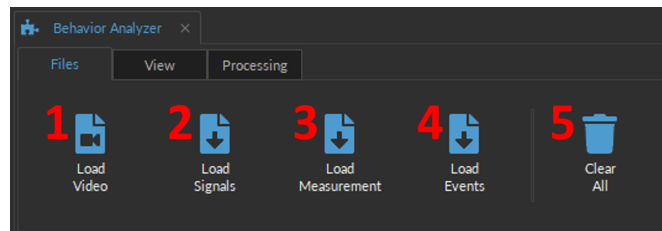
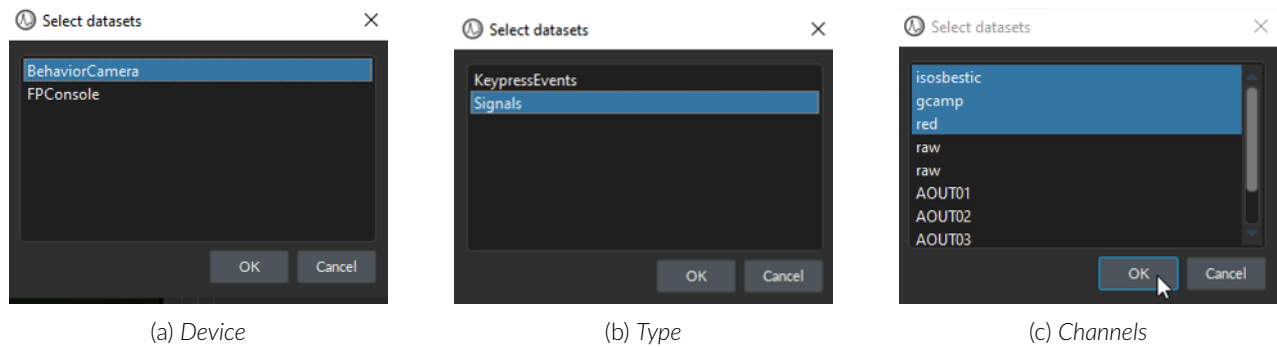
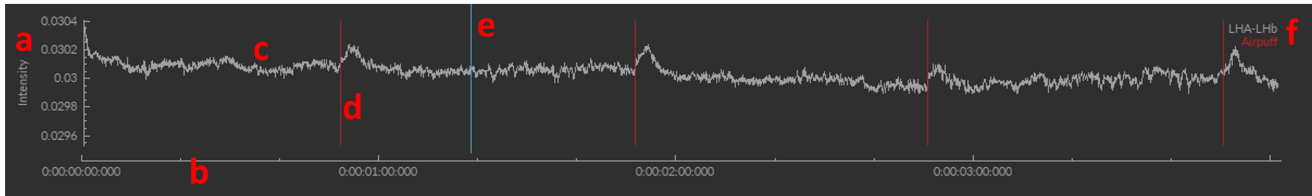

Figure 12.3: Behavior Analyzer, Files tab
Figure 12.4: Select Datasets
Figure 12.15: Signal View, graph
The **File** tab (Fig. 12.3) is primarily used to load and save the data. The following details the specific features of each button, as per Fig. 12.3:
1. The **Load Video** button (Fig. 12.3, 1) will open the File Explorer window where users can select any saved video that are in either .avi or .mp4 format. This does NOT necessarily need to be video data recorded with *Doric Neuroscience Studio*. Note that a warning will pop up if Video and Signal data are not the same lengths since this could affect data alignment.
2. The **Load Signals** button (Fig. 12.3, 2) opens a File Selection Window where users can select the .doric file of a previous recording and import it into the module. The file must contain both time and signal data. Once the file is selected, a **Select Dataset** window will pop up (Fig. 12.4), allowing the user to specify which device (Fig. 12.4a), signal type (Fig. 12.4b), and the channels (Fig. 12.4c) to include for data processing. Only the selected channels will be displayed within the **Signal View**. Multiple channels can be selected at once.
3. The **Load Measurement** button (Fig. 12.3, 3) allows users to import previous measurements (Animal Tracking or Motion Score) from a .doric file into **Signal View**. Data will be pulled from *DataBehavior/Measurement* folder within the .doric file.
4. The **Load Events** (Fig. 12.3, 4) allows users to display **Keypress Events** from a .doric file and overlay it on the signal data in **Signal View** as vertical lines, at the appropriate time points. Select **KeyPressEvents** within the **Select Dataset** window (Fig. 12.4b) to import them into the module.
5. The **Clear all** button (Fig. 12.3, 5) deletes all data currently loaded in the module. This data cannot be recovered, so ensure the data is properly saved before clearing it.
- a) The **Y-axis** (Fig. 12.15, a) for loaded signal, represents the intensity of the pixel, which is unitless. For the **Animal Speed**, the unit is in pixel/second, while the **Animal Motion Score** is plotted with Arbitrary Units (AU).
- b) The **X-axis** (Fig. 12.15, b) represents the time in d:hh:mm:ss:zzz.
- c) The **Trace** (Fig. 12.15, c) is the curve of the signal, corresponding to fluctuations in pixel intensity, from which $\Delta F/F_0$ will be calculated.
- d) The **Event indicators** (Fig. 12.15, d) are the overlaid **Keypress Events**, which can be imported using the **Load Events** button (Fig. 12.3, 4).
- f) The **Legend** (Fig. 12.15, f) displays the color code of the graph traces. The trace name of the signal is always included and, when present, keypress event(s) are also displayed.